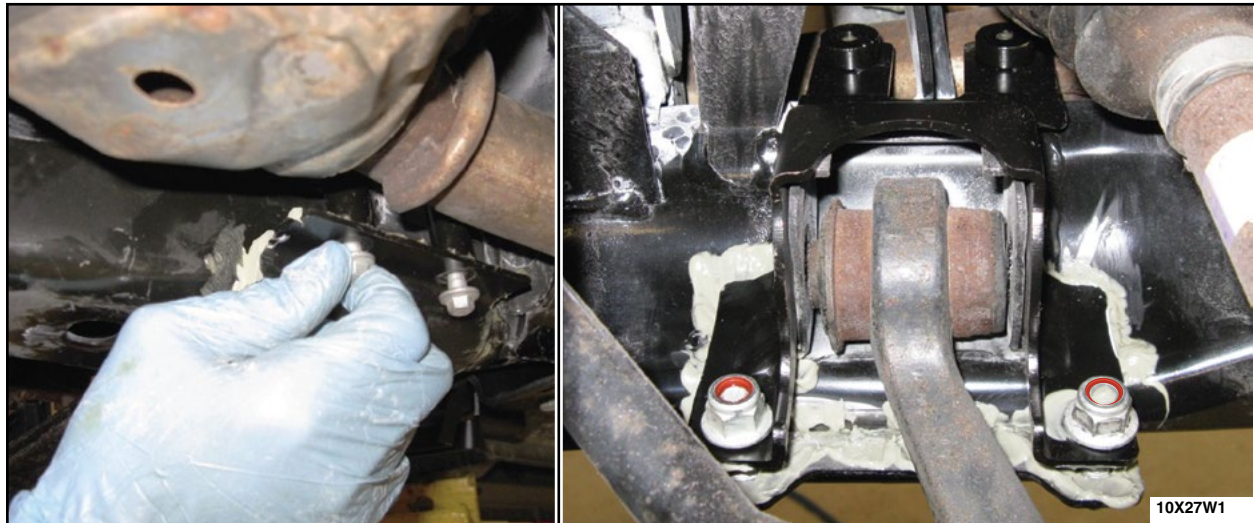

FIGURE 15
17. Align the lower section of the passenger side LCA reinforcement bracket with the upper section. While holding in place, install the bolts, nuts, sleeves and finger tighten. See Figure 15.